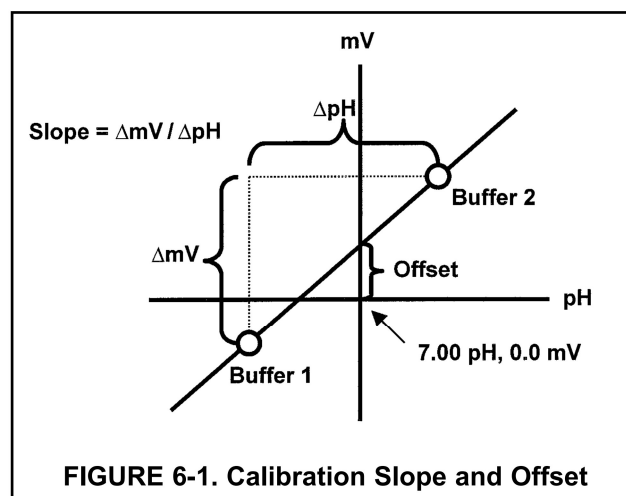

FIGURE 6-1. Calibration Slope and Offset
2. **SLOPE AND OFFSET.** Once the Solu Comp II successfully completes the calibration, it calculates and displays the calibration slope and offset. The slope is reported as the slope at 25°C. Figure 6-1 defines the terms.